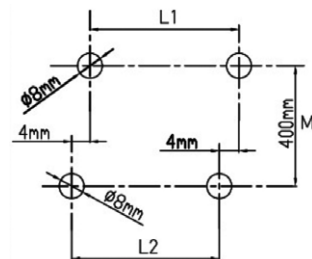

Fig. 2
1. Drill holes according to the instructions in fig. 2